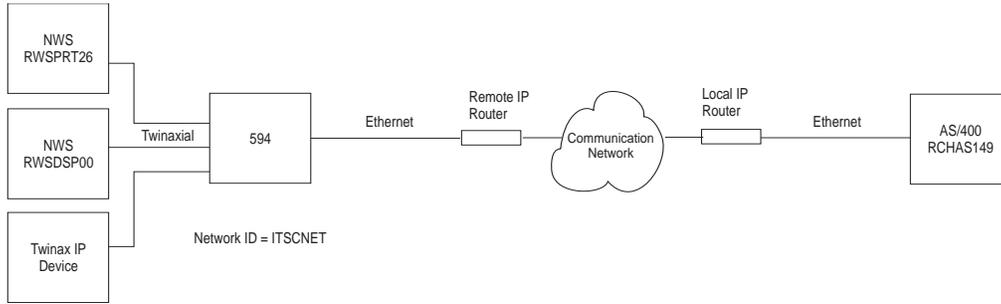

Fig. 23: AS/400 TCP/IP Ethernet configuration
- Fig. 23: AS/400 TCP/IP Ethernet configuration 13